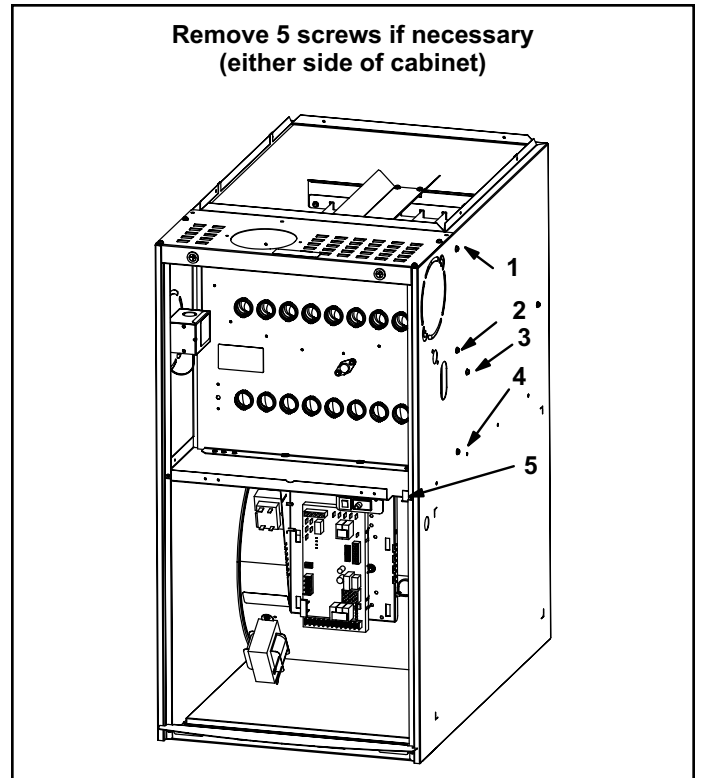

Figure 22.
10. Remove heat exchanger. It may be necessary to spread cabinet side to allow more room. If so, remove five screws from the left side or right side of cabinet. See Figure 22.